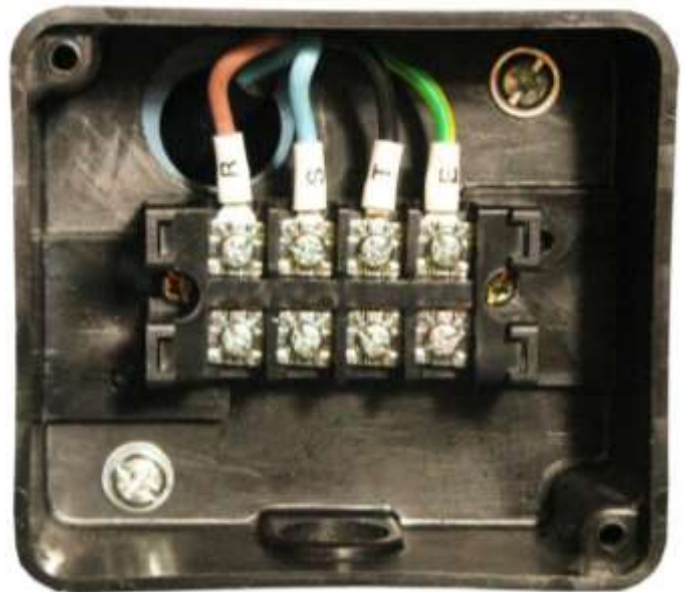

figure 7
1. Locate the junction box at the rear of the lathe and open the cover. (fig. 7)